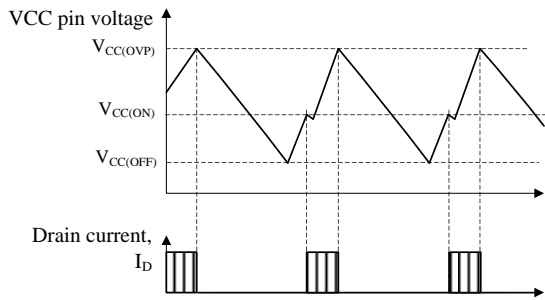

Figure 9-19 OVP operational waveforms
During OVP operation, the Bias Assist Function is disabled, the intermittent operation by UVLO is repeated (refer to Section 9.11). When the fault condition is removed, the IC returns to normal operation automatically (refer to Figure 9-19). When VCC pin voltage is provided by using auxiliary winding of transformer, the overvoltage conditions such as output voltage detection circuit open can be detected because the VCC pin voltage is proportional to output voltage. The approximate value of output voltage $V_{OUT(OVP)}$ in OVP condition is calculated by using Equation (7).